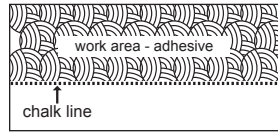

Figure 14
- Spread the recommended adhesive with the proper trowel in an area that can be covered within the working time of the adhesive. Be sure not to spread adhesive too far ahead of your work area (Figure 14).